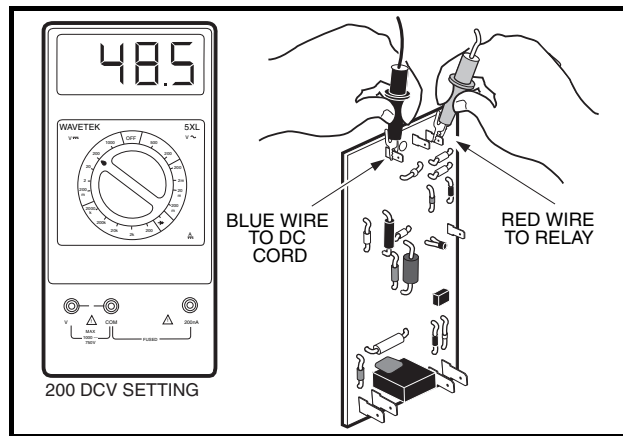

Figure 6-6 DC Circuit Test
2. Place black (–) probe of multimeter on terminal with blue DC cord wire and red (+) probe to terminal with red relay wire (**Figure 6-6, Page 6-12**).